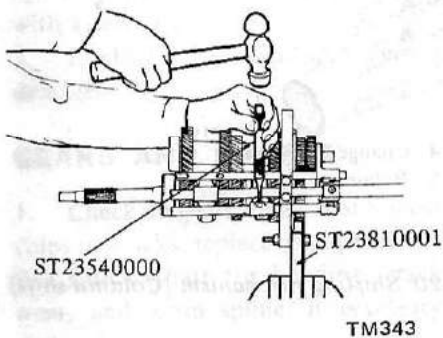

Fig. TM-11 Driving out retaining pins
1. Drive out retaining pins from each fork rod with Fork Rod Pin Punch ST23540000. See Figure TM-11.